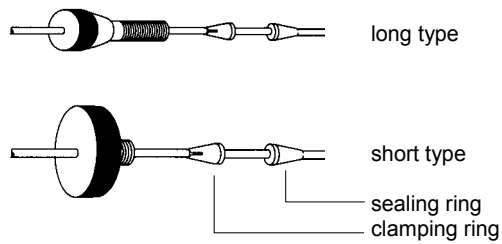

Fig. 12 DYNASEAL Capillary connections
1. Connect the outlet of the HPLC column to the inlet bushing (IN) of the detector.
2. Push the bushing, the clamping ring, and the sealing ring onto the capillary (for standard connections just use the respective bushing and clamping ring). Please take care to note the sequence and orientation of the fittings according to Fig. 12.